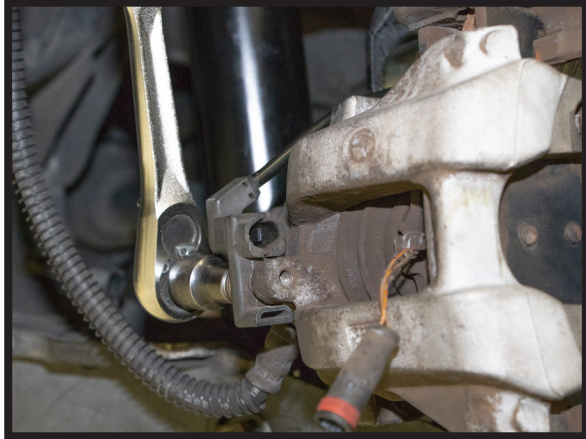

FIGURE 37
10. INSTALL THE SENSOR BRACKET. (FIGURES 37, 38)